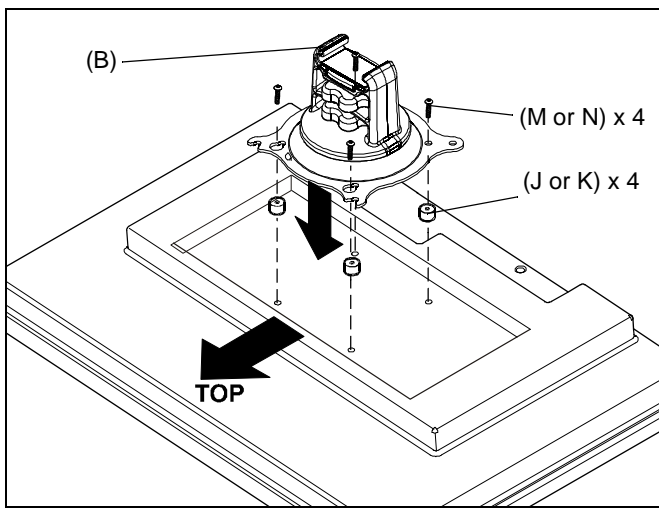

Figure 9
- Pick up and orient the Centris bracket (B) so that the mounting holes are aligned with the holes in the spacers; rotate the Centris bracket as required. (See Figure 9)
- Using Phillips screwdriver, install four selected screws (M or N) through the mounting holes in Centris bracket, through the spacers (J or K), into the display. (See Figure 9) Tighten all four screws. Do not overtighten!